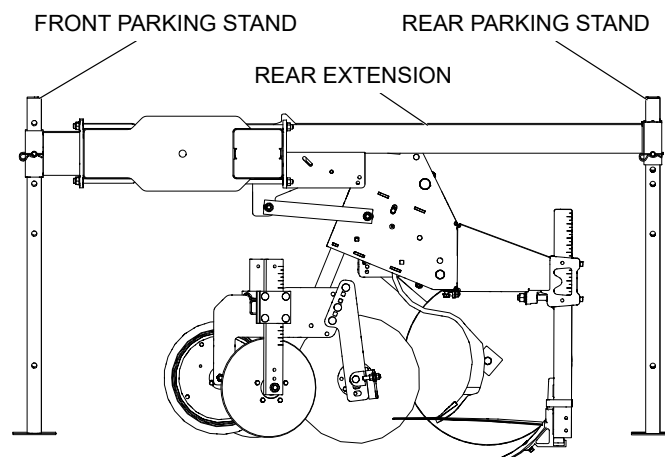

Figure 8 Front & Rear Parking Stands
6. Lower front parking stands to the ground and pin in position so that parking stands will be vertical when the tractor is removed. See Figure 8.